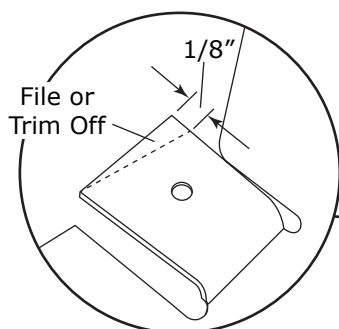

Figure 2a
3. File or trim 1/8" from temperature cable mounting location (See Figure 2a, below).